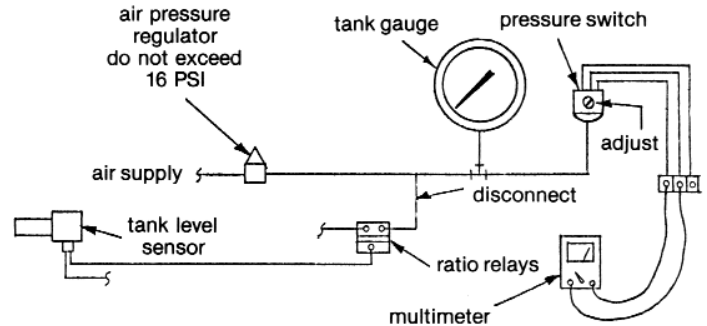

Figure 2.
9. Set up a test as in Figure 2. This is the same as Figure 1. except that a multimeter is connected to the pressure switch.